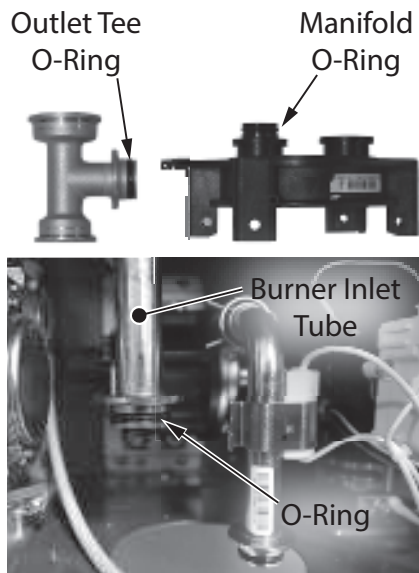

Figure 250 - Replace O-rings
19 If replacing outlet tee, discard old tee and locate the new outlet tee provided in the kit. Install one (1) 15.5 x 2.5, NBR O-ring to outlet tee. Replace one (1) 15.5 x 2.5, EPDM O-ring on the cartridge manifold. Replace one (1) 21.8 x 2.4 O-ring on the burner inlet tube. See Figure 250 on the following page for reference.